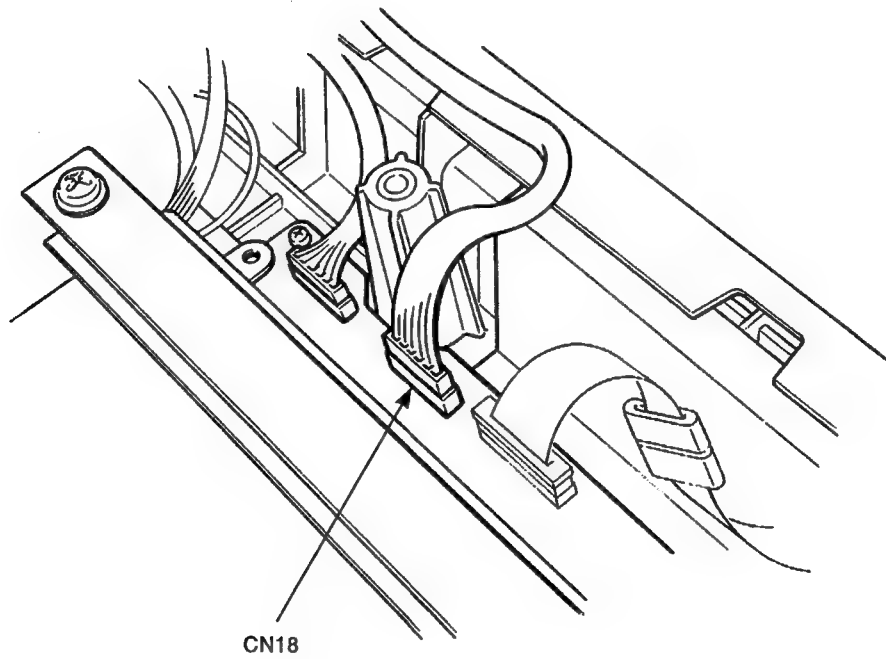

Figure 3-47 Connector CN18
3. Disconnect CN18 from the mother board (see Figure 3-47).